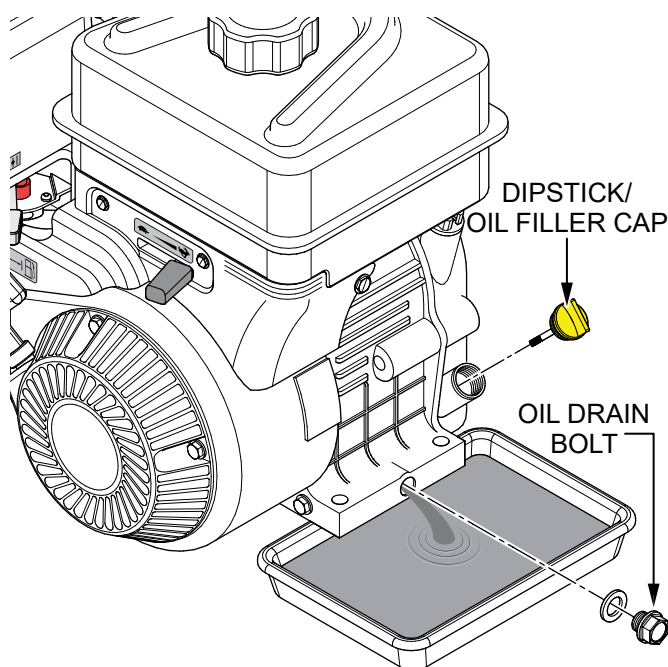

Figure 17. Draining Engine Oil
2. Remove the **engine oil dipstick** (Figure 17).
3. Remove one of the **oil drain bolts** (Figure 17) and allow the engine oil to drain into a suitable container.
5. With the **dipstick/oil filler cap** still removed (Figure 17), fill with the recommended oil type listed in Table 6. Maximum oil capacity is 0.85 quarts (0.80 liters). **DO NOT** overfill.